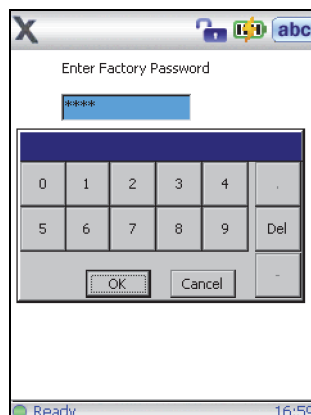

Figure E-12 Password entry
2. Enter your password, and then tap **OK** (see Figure E-12 on page 159).